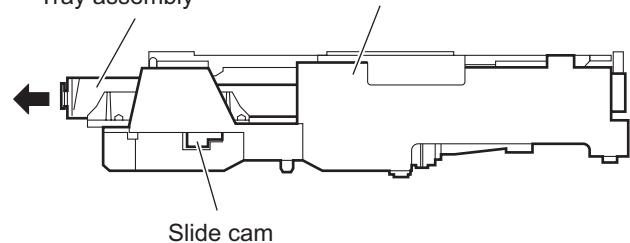

Fig.11
- (3) From the right side of the DVD mechanism assembly, push the slide cam and pull the tray assembly out of the DVD mechanism assembly in the direction of the arrow. (See Fig.11.)